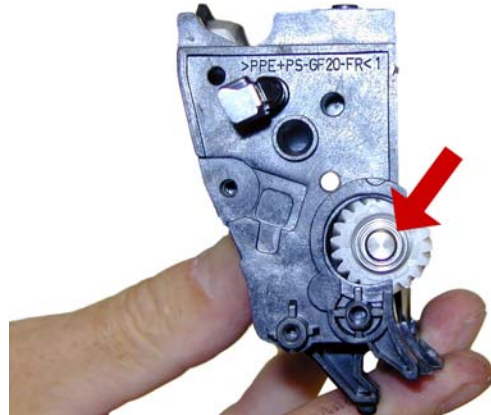

Figure 49
27) Install the bearing onto the gear side of the developer roller shaft. See **Figure 49**